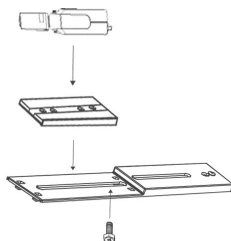

Fig. 13.7 Attaching the Camera and Spacer to the Tray
The UHI-ASBG-0 includes two (2) spacers which may be required to keep the camera level (see *Figure 13.7* on page 26). If a spacer is not used, the camera may dip down creating a port hole effect.
3. Determine if one of the supplied spacers are required and place on top of the lower portion of the tray as seen in *Figure 13.7* on page 26.